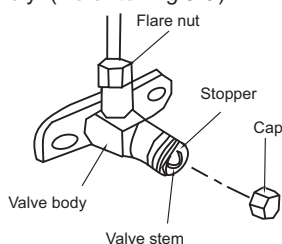

Fig.9-6
- Check all the joints with the leak detector or soap water. (See Fig.9-6 as a reference illustration)
- All the stop valves should be opened before test operation. Each air conditioner has two stop valves of different sizes on the side of the outdoor unit which operates Lo-stop value, respectively. (Refer to Fig.9-6)